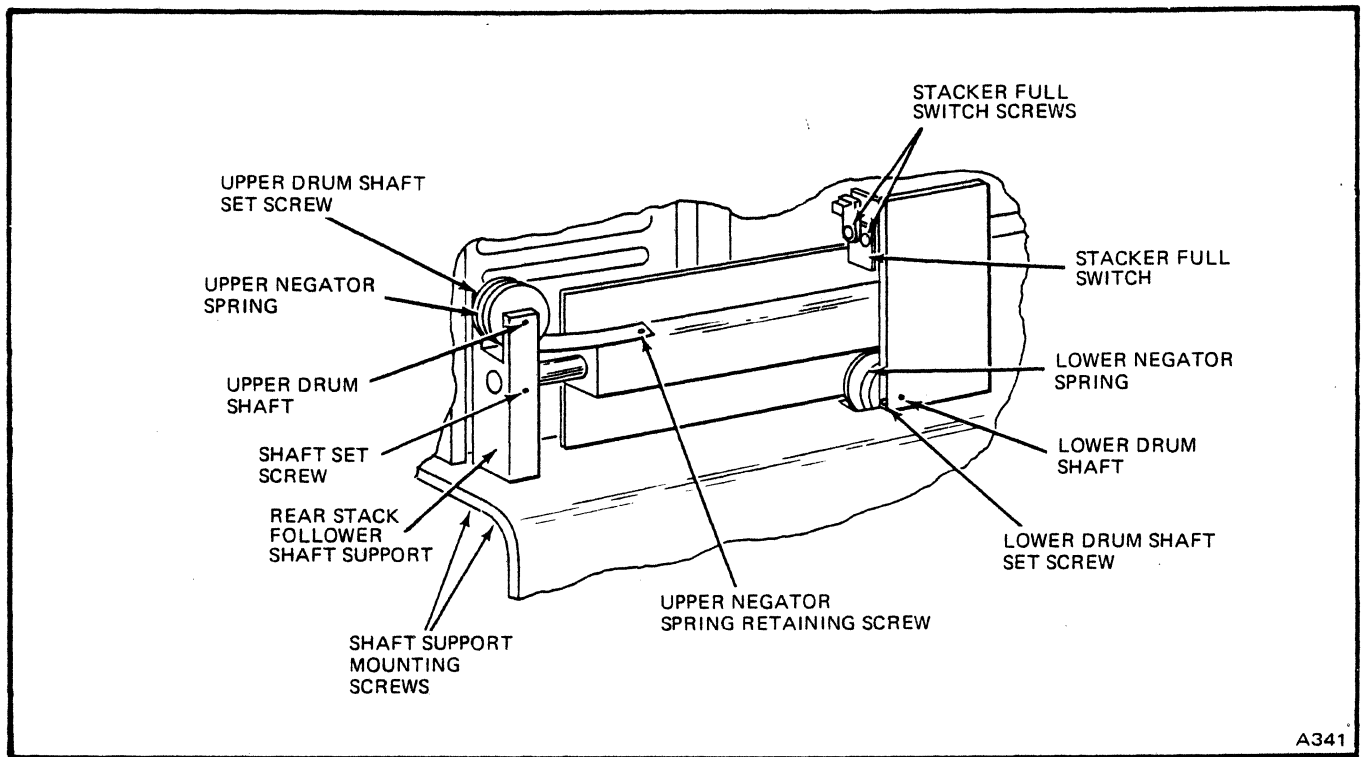

Figure 4-38. Stacker Negator Spring Replacement, Rear View
- d. Loosen set screw in rear stack follower shaft support (Figure 4-38). Remove stack follower shaft.
- b. Remove upper negator spring retaining screw (Figure 4-38).
- c. Loosen shaft set screw on rear stack follower shaft support (Figure 4-38).
- d. Loosen two rear stack follower shaft support mounting screws. (Figure 4-38).
- b. Remove stacker full switch assembly (Figure 4-38).
- c. Loosen two screws retaining stacker full switch bracket (Figure 4-38).